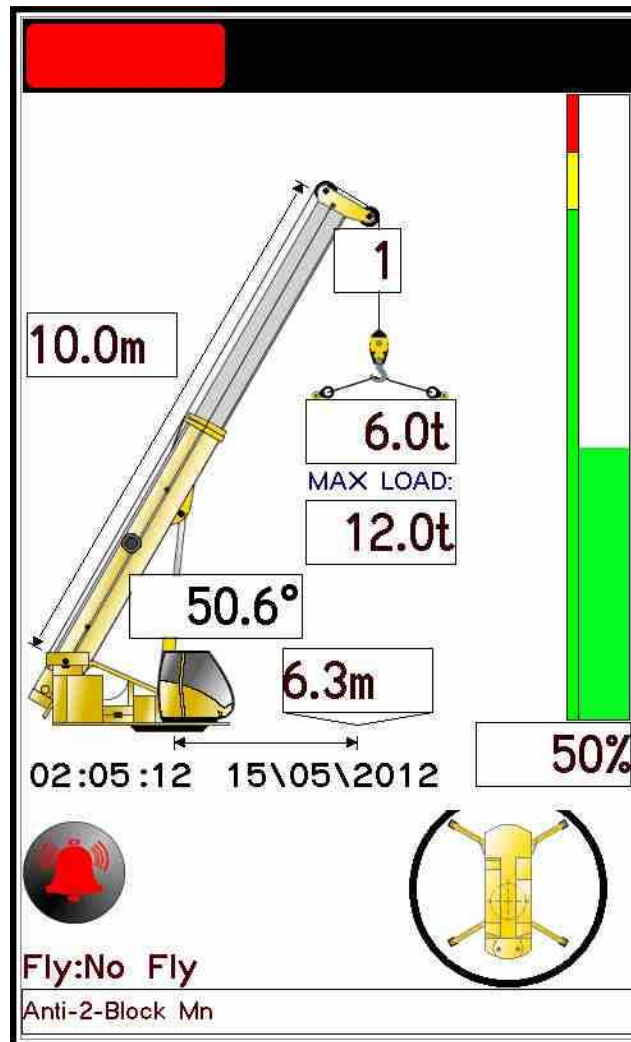

Figure 10
**Program:** This is the current program selected. Any error messages will be displayed in this block (see Figure 10 – i.e. Anti-2-Block). If there is more than one error, it will scroll across the block.
## ERROR MESSAGES - FIGURE 10 AND TABLE 1